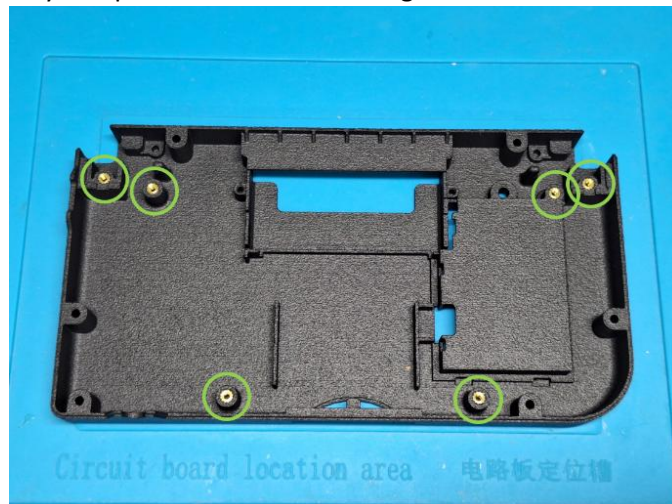
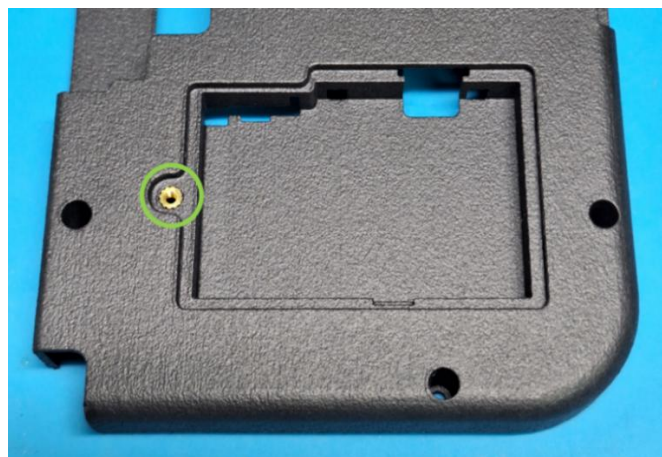

Figure 5: Heat-set inserts installed in rear shell
Figure 6: Heat-set insert installed in battery compartment
2. **Nylon (SLS/MJF):** Install seven heat-set threaded inserts using a soldering iron. Six of the inserts are installed on the inside of the shell as shown in Figure 5. The remaining insert is installed in the battery compartment as shown in Figure 6.